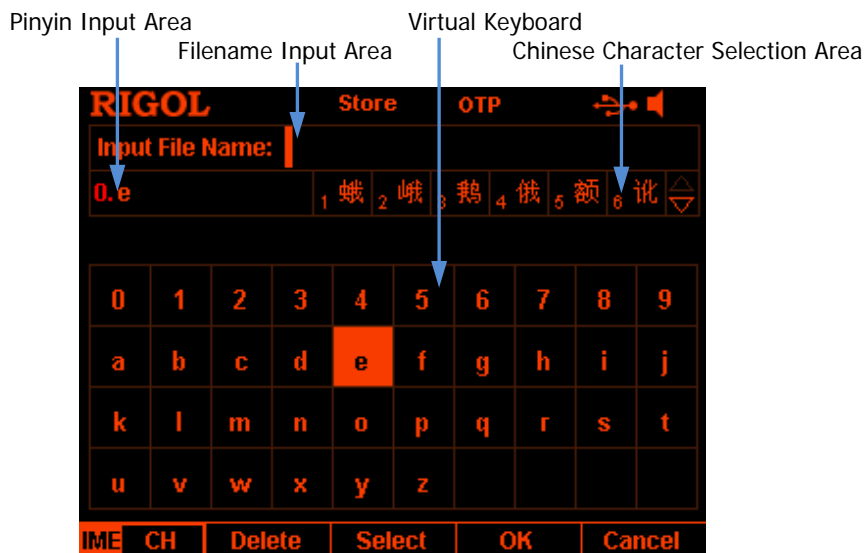

Figure 2-12 Filename Input Interface (Chinese)
2. Press **Browser** to switch the cursor to the directory area to select the desired directory. Press **Browser** again to switch the cursor to the file area and select the desired storage directory. Press **Save** to open the filename input interface (Figure 2-11 or Figure 2-12).
Press **IME** to select "CH" or "EN" in the filename input interface (Figure 2-11 or Figure 2-12). Press **.** on the numeric keyboard to switch between English uppercase and lowercase.